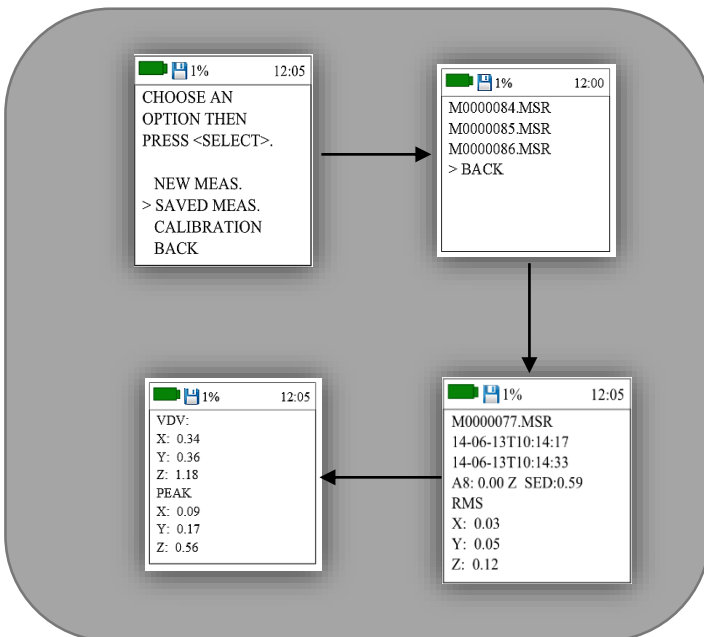

Figure 9: Measurement results
Data from selected measurement file; measurement time; A(8) value, Sed, RMS, VDV and Peak values for three directions are shown, see figure 9.